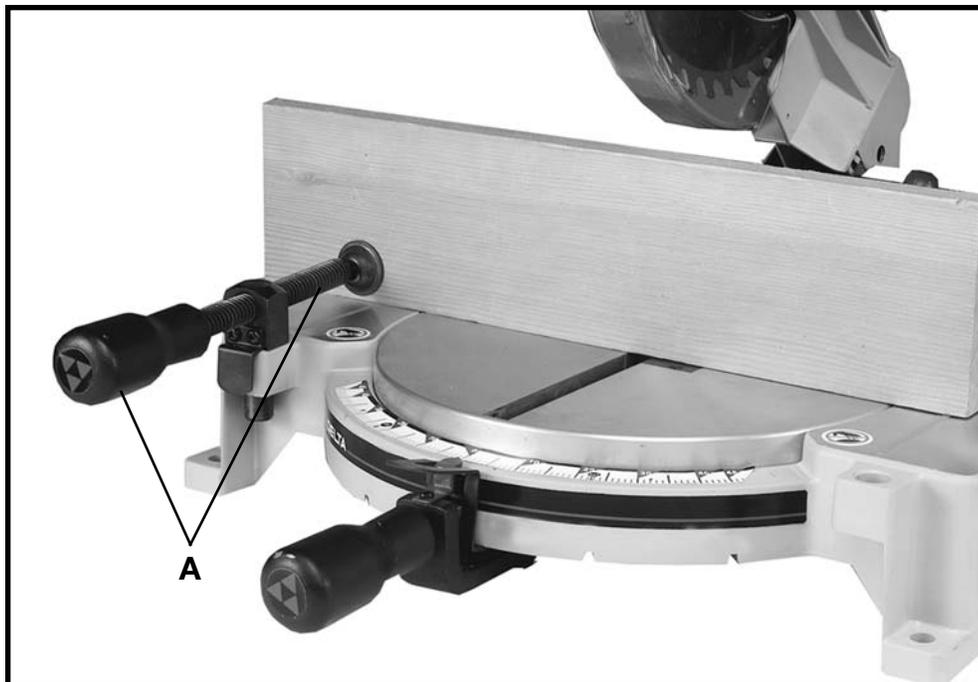

Fig. 30
3. Place the workpiece on the table and hold or clamp it firmly against the fence. Fig. 30, illustrates the accessory 36-221 work clamp (A) being used to clamp a workpiece to the fence. The clamp (A) can also be used on the right side of the machine.
5. **⚠ WARNING:** If the workpiece you are cutting would cause your hand to be within the hazard zone of the saw blade, the workpiece should be clamped in place before making cut. See Fig. 30.